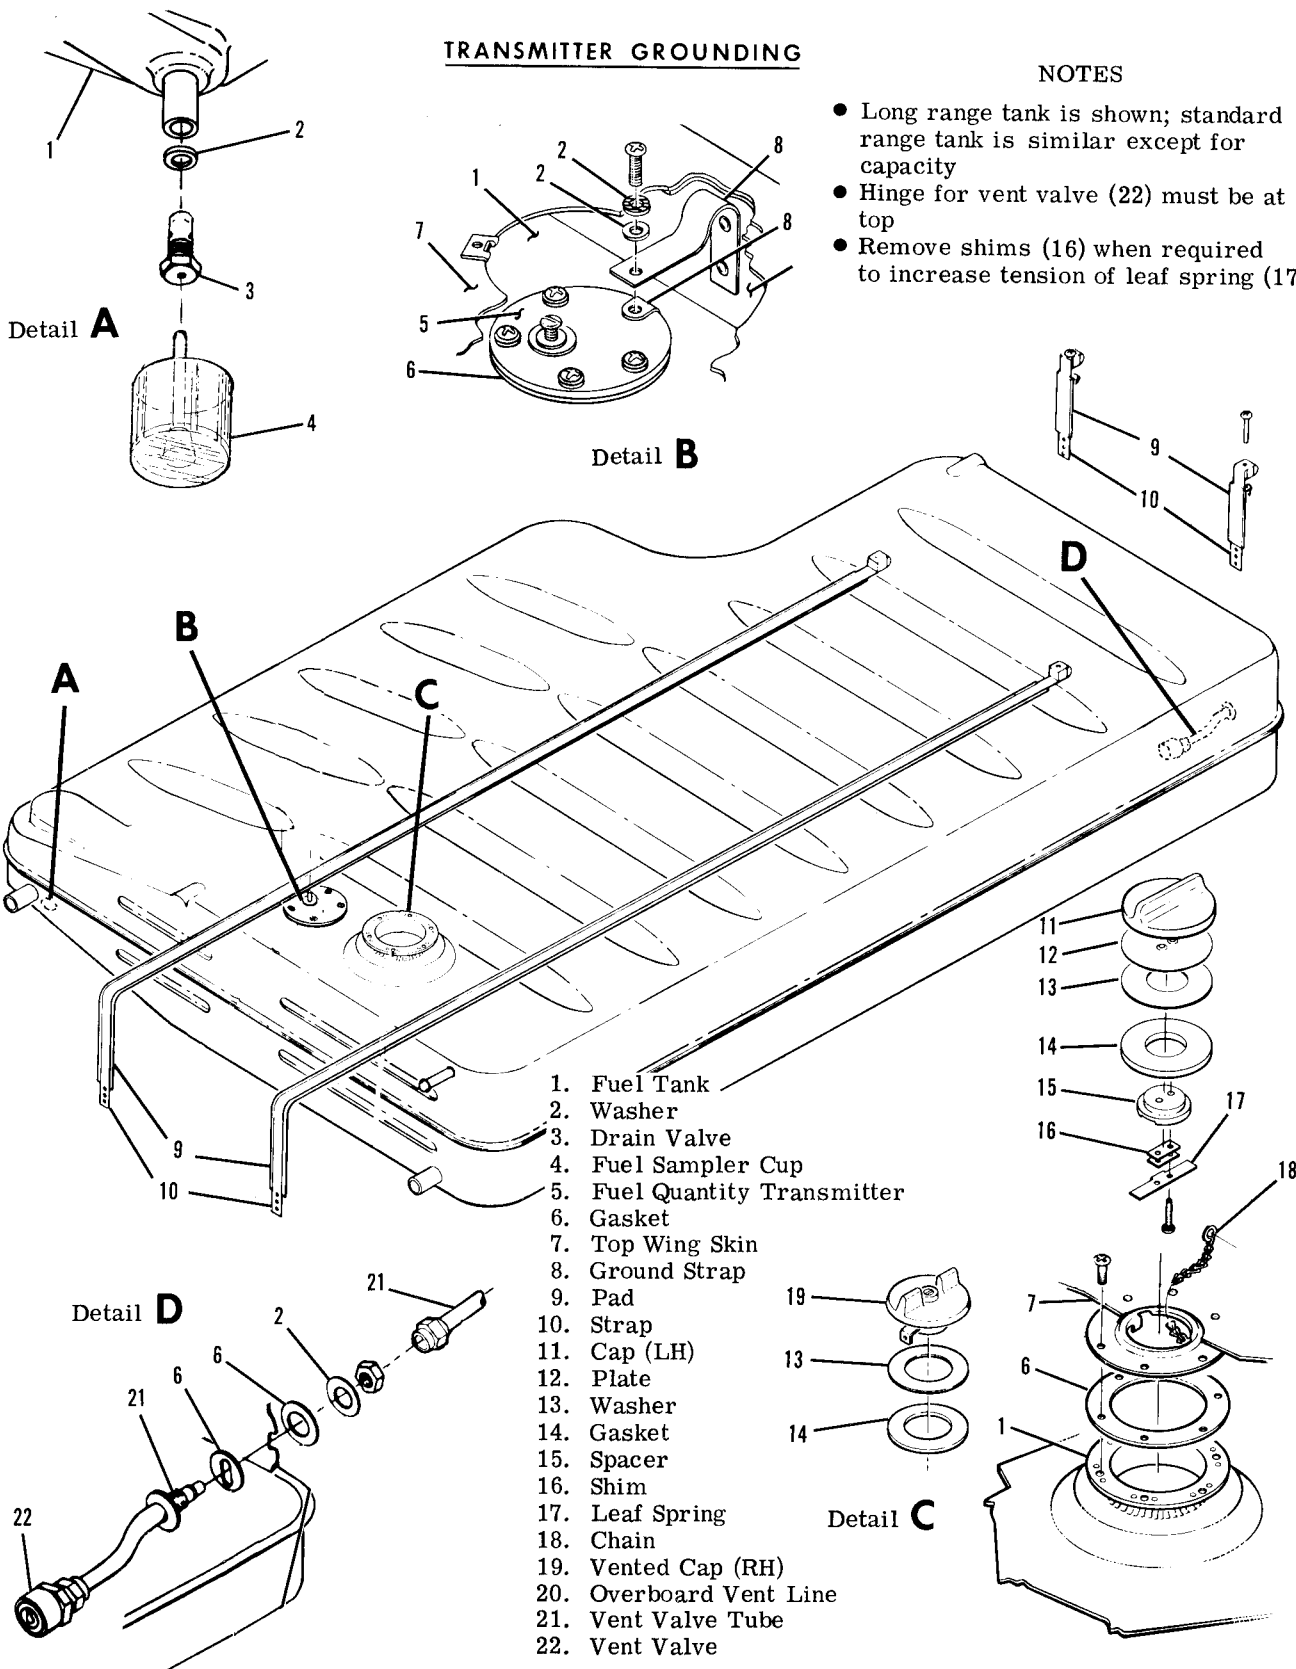

Figure 12-3. Fuel Tank
- g. To install tank, reverse the preceding steps. Be sure grounding is secure in accordance with figure 12-3.